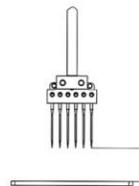

图13 (Fig.13)
- 1.当针杆上升至最高点时,调整针尖与针板面的距离为 $13\pm 0.5\text{mm}$ 。(图13)
- 1.Needle tip should be $13\pm 0.5\text{mm}$ height from Needle plate when Needle Bar mores to its top position. (Fig.13)